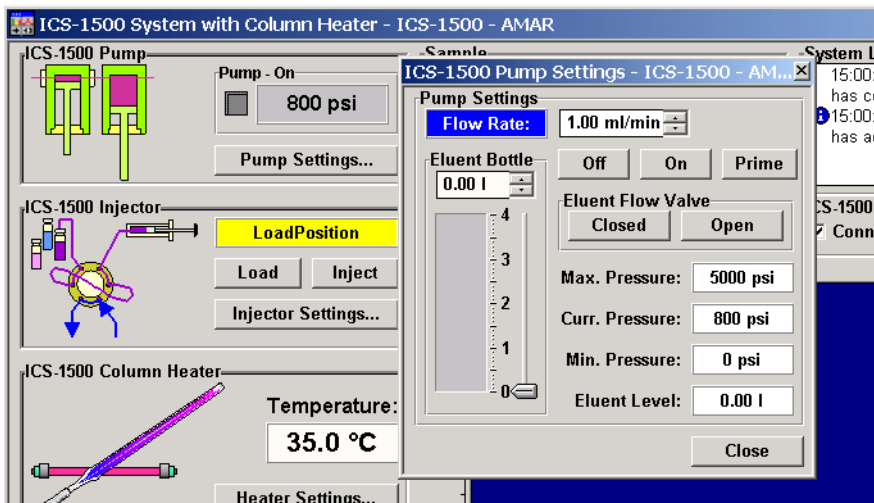

Figure 37. Chromeleon Control Panel: Pump Settings
4. On the Chromeleon Control Panel, click **Pump Settings** and then click **Eluent Flow Valve Open** (see Figure 37).
3. Click **Prime** on the Chromeleon Control Panel (see Figure 37). The pump will begin pumping at approximately 3 mL/min.